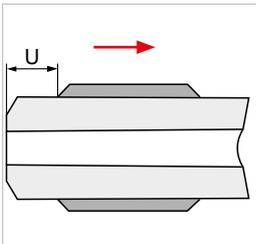

Figure 2
- ▶ Screw the pressure ring onto the pipe (*Figure 2*). Take the dimension "U" to be set from the table in *chapter 10.3 on page 19.*